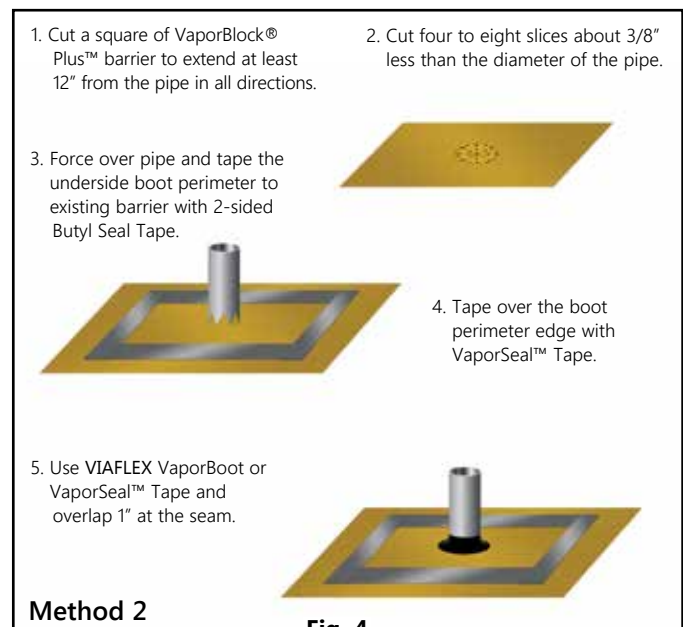

Fig. 4
Pipe boots may also be fabricated from excess VaporBlock® Plus™ membrane (Fig. 4 & 6) and sealed with VaporBoot Tape or VaporSeal™ Tape (sold separately).
1.4b. **Method 2:** To fabricate pipe boots from VaporBlock® Plus™ excess material (see Fig. 4 & 6 for A-F):
- Complete the process by taping over the boot perimeter edge with VaporSeal™ Tape to create a monolithic membrane between the surface of the slab and gas/moisture sources below and at the slab perimeter. (Fig. 4 & 6)